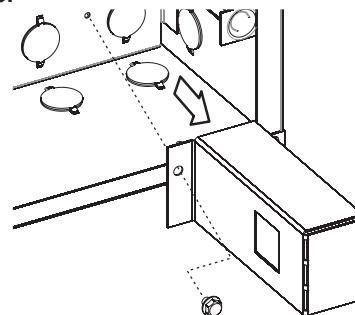

Figure 25
- Remove internal junction box by removing single screw. **See Figure 25.**